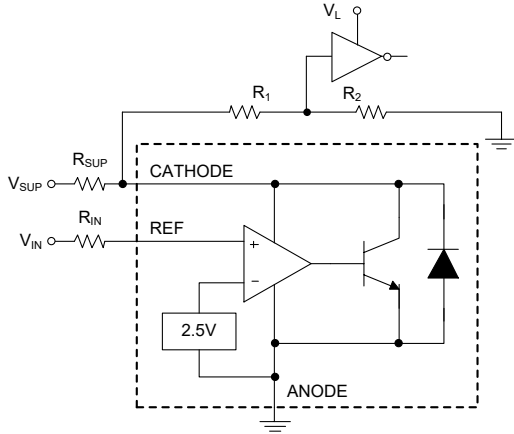
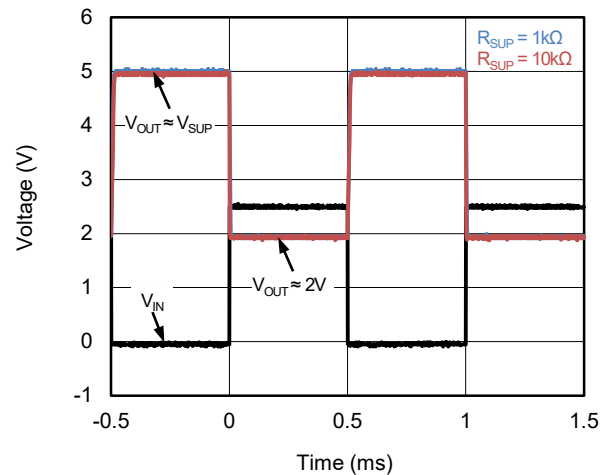

Figure 3. Comparator Application Schematic
Figure 4. Output Response with Various Cathode Current
As shown in Figure 3, the LM431SH is always used as a comparator with 2.5V integrated reference in application, for this design, the parameters are listed in Table 1. The REF pin voltage is compared with reference inside and is amplified. Also, the LM431SH responds fast if the operation current I_{KA} is large enough. In Figure 4, it is clear to see that the output response with $R_{SUP} = 1k\Omega$ is much faster than $R_{SUP} = 10k\Omega$. The maximum cathode current of I_{MIN} is 0.7mA, any cathode current below this value will cause a low response (low open-loop gain) for the application of comparator.
The input resistance should be less than 10k Ω in order to minimize the voltage drop between V_{IN} and V_{REF} . The readability of the logic output of the comparator should be guaranteed so that it can be received by the next stage. In Figure 4, the V_{IL} of the comparator logic is 2V, which is sufficient for a 5V supply voltage. However, for the logic stage which is powered by 1.8V or 3.3V, the V_{IL} is hard to be figured out. To accommodate this, a voltage divider should be taken into account. Due to the Open-Collector (OC) output stage, the V_{IH} is equal to the voltage of its power supply. When the voltage divider is used to attenuate V_{IH} , please make sure that the sum of R_1 and R_2 is greater than the resistance R_{SUP} to the power supply.